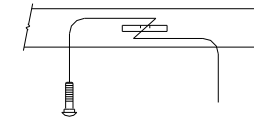

Figure 3
① Qty. (4)	Carriage bolt 1/2-13 x 1.50 GR5
② Qty. (2)	Spacer .250 x 1.50 x 3.00
③ Qty. (8)	Conical washer 1/2"
④ Qty. (4)	Hex Nut 1/2 -13 GR2
⑤ Qty. (6)	Bolt M12x1.75x45 CL10.9
⑥ Qty. (2)	Spacer .250 x 1.50 x 2.0
⑦ Qty. (4)	Pull wire 1/2-13
2. Feed the carriage bolt and large block thru slots on bottom of frame rails using the pull wire, as shown Figure 3